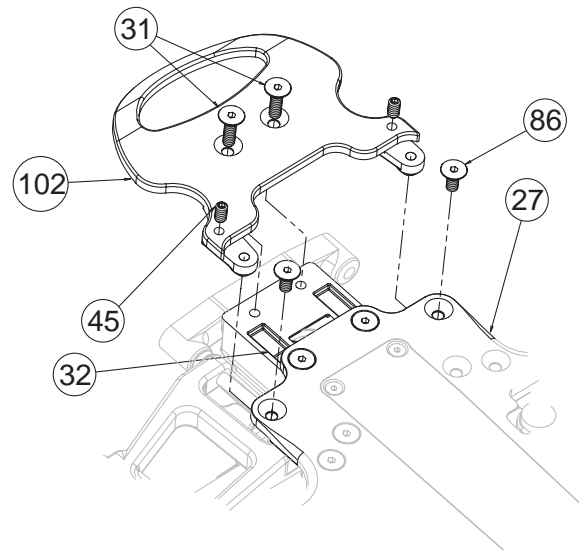

Figure 59
1. Install the Rear Bumper (102) by lining up the holes in the "fork" of the Rear Bumper with the holes in the back of the Chassis (27). Thread two 4-40 x 1/4" Flat Head Screws (86) through the Chassis into the holes in the Bumper as indicated in Figure 59, and tighten.
2. Thread two 4-40 x 3/8" Flat Head Screws (31) through the Bumper into the Rear Diff Cover (32), and tighten.
3. Thread the two 4-40 x 3/16" Droop Limiter Screws (45) through the Rear Bumper, until the Hex of the Screw, is positioned half-way into the bottom of the Rear Bumper as indicated in Figure 59.